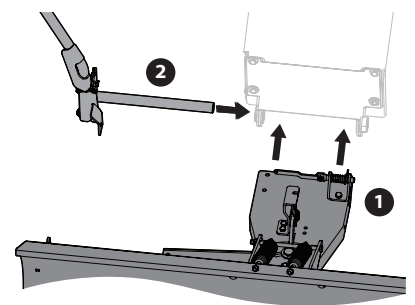

Figure 7
- Bring plow assembly (689-02100) up from underneath front mounting bracket (689-02459) and fit between flanged bearings (741-0192). See (1) in Figure 7.
- Holding plow assembly in place, slide lift handle assembly (689-02499) into position, making sure to slide shaft through both bearings. See (2) in Figure 7.